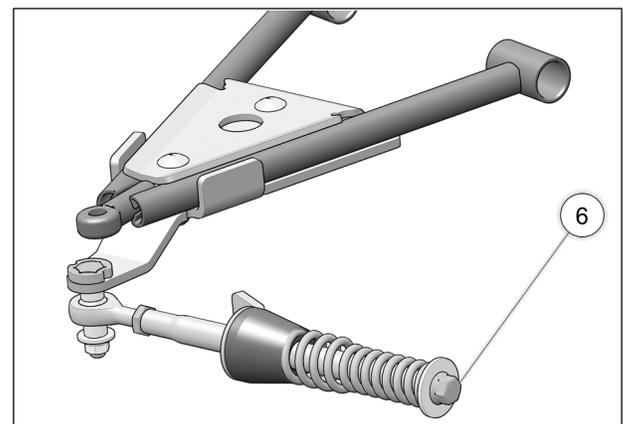

Fig. 23
- Verify that spring assembly bolt (**6**) is tightened to the recommended torque specification: 75 N•m [55 lb•ft]. Refer to Fig. 23